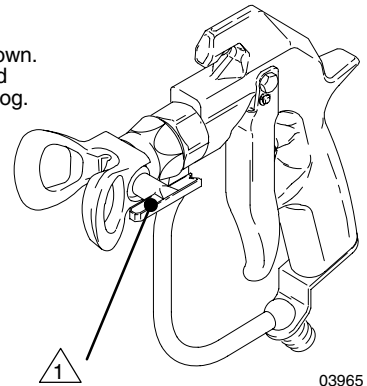

Fig. 4
2. Lock the gun trigger safety. Rotate the RAC IV tip handle back 180°. See Fig. 4.
4. Lock the gun trigger safety. Rotate the tip handle to the spraying position. See Fig. 4.